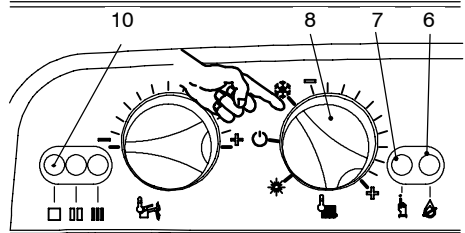

Fig. 7.3
- 2 Turn the function selector 8 as in Fig. 7.3. The appliance operation light 10 will flash every 2 seconds.